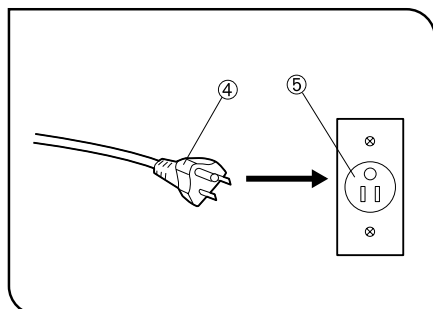

Fig. 6
2. Plug the power cord plug ④ into the wall outlet ⑤. (Fig. 6)